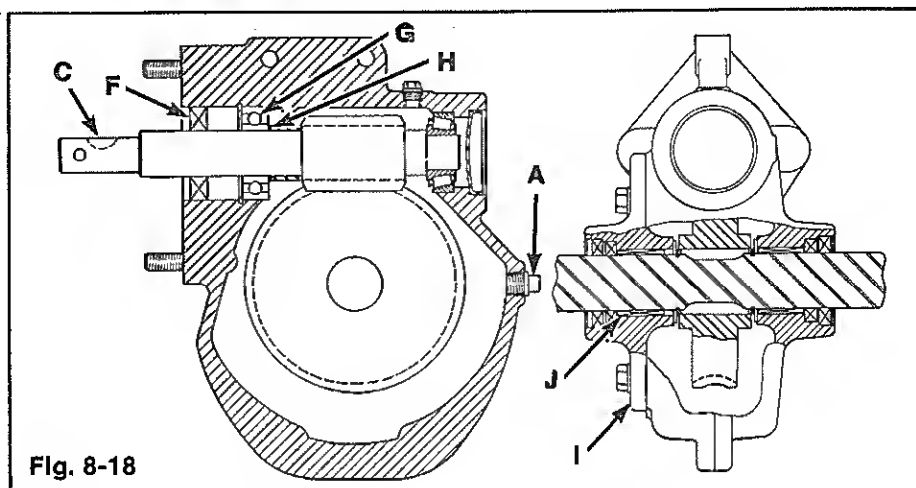

Fig. 8-18
1. Drain the gear case through oil fill (A) Figure 8-18.
2. Disassemble worm shaft (C) by removing oil seal (F) snap ring and ball bearing (G). Note position of shims on worm shaft.
3. Remove cover (I). Be careful not to damage needle bearing (J).